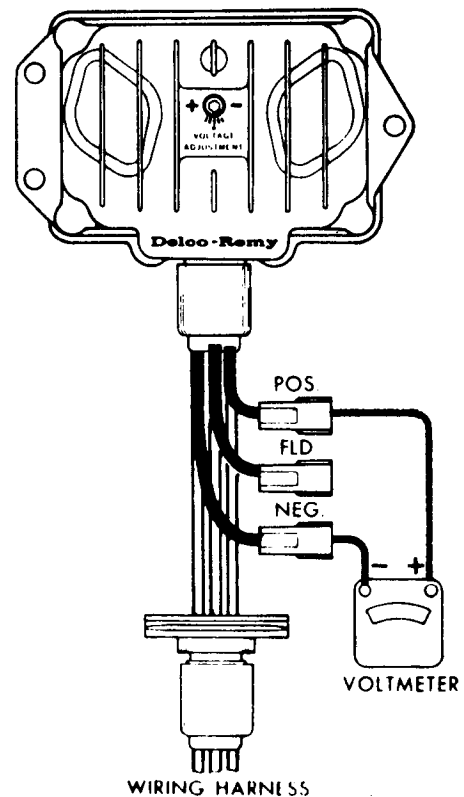

Figure 4 - Voltmeter connections to test adapter.
1. Connect a voltmeter to the test adapter as shown in Figure 4.